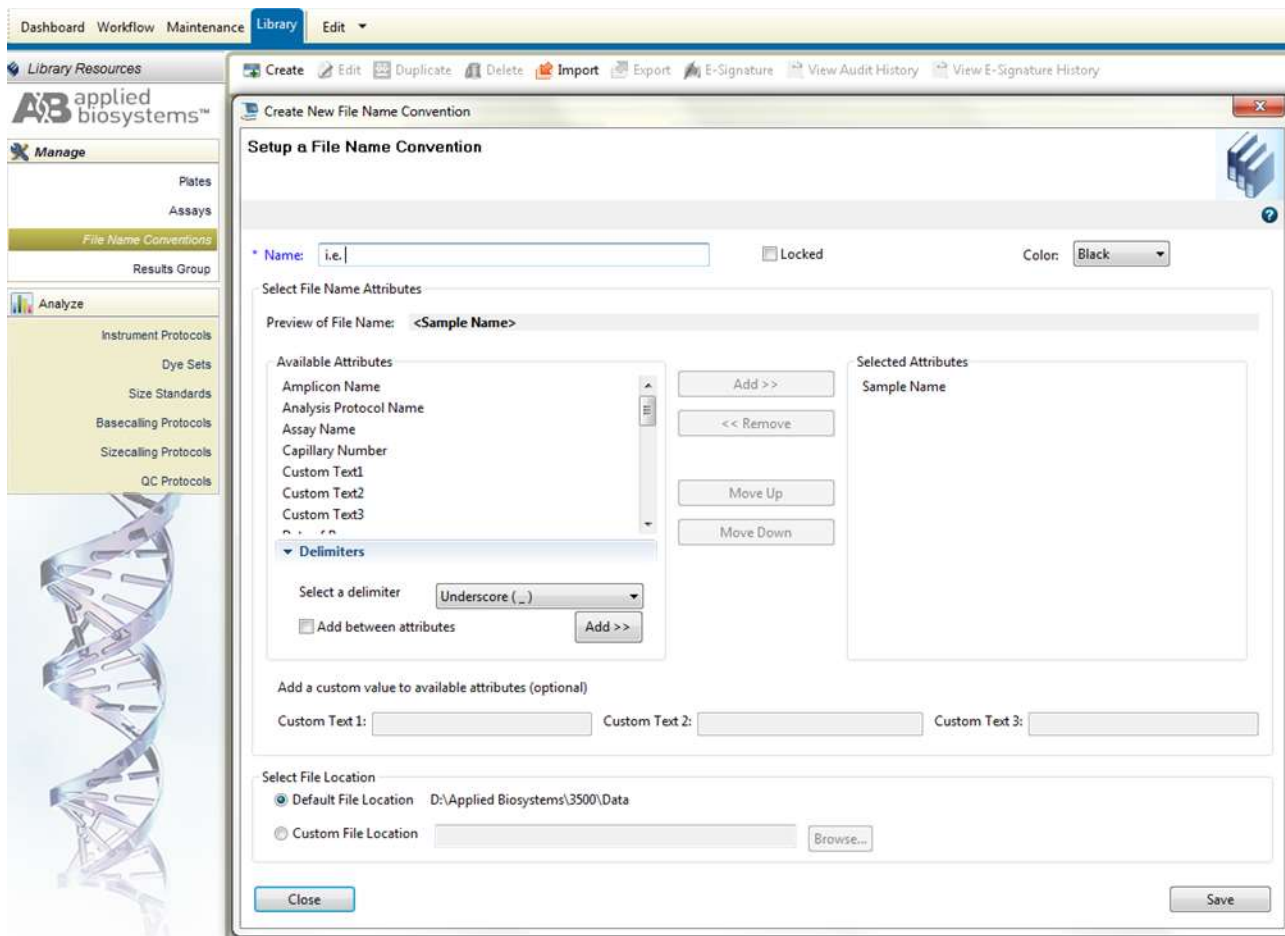

Figure 9. Screenshot for the “Create New File Name Convention” window on Applied Biosystems 3500 Data Collection software
- c) Select “*Create*” (Figure 9)